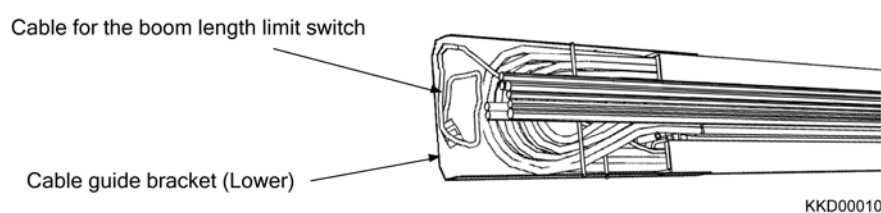

Fig. 2-39
- 14) Wind the disconnected cable and then put it on the cable guide bracket (Lower). (Fig. 2-39)